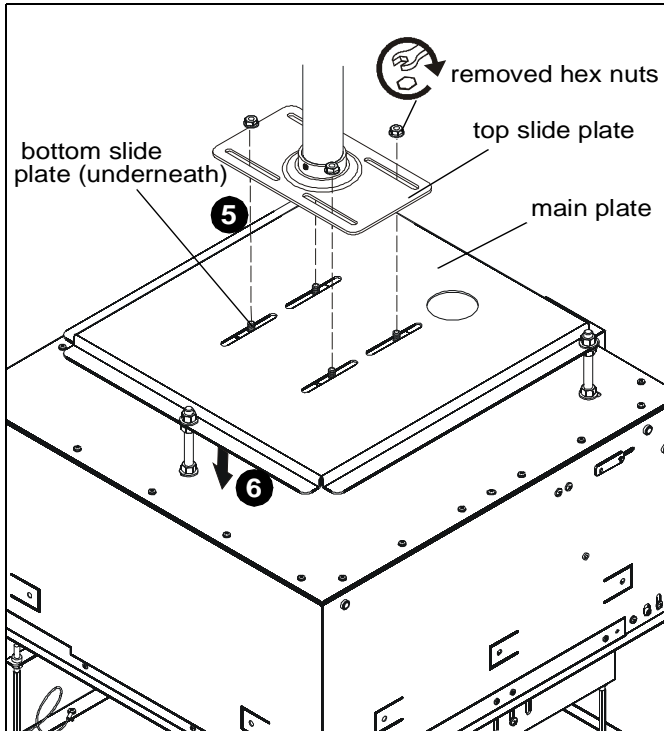

Figure 8
4. Lift main plate and attached SL-151 underneath top slide plate making sure the four slots on each plate are perpendicular to each other. (See Figure 8)
6. Insert four bolts up through four slots on top slide plate and secure using the four hex nuts removed in Step 1 of Disassemble Pipe Adapter Assembly. (See Figure 8)
7. Lower hex nuts holding main plate in place to bring SL-151 to desired height. (See Figure 8)